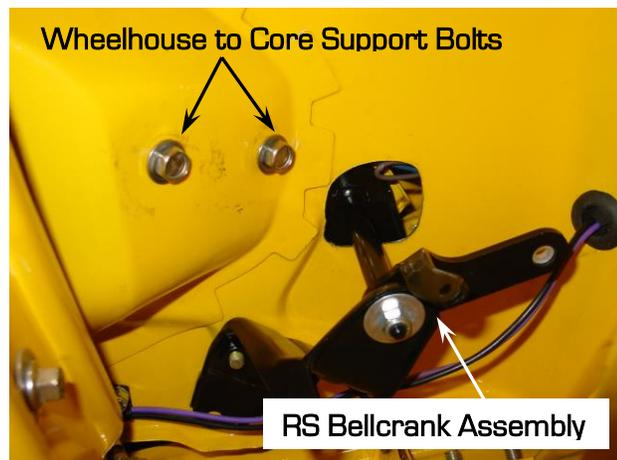

Figure 13 - Locate Core Support Bolts
3. Locate the two bolts that attach the inner wheelhouse to the core support underneath the front fender area (Figure 13).